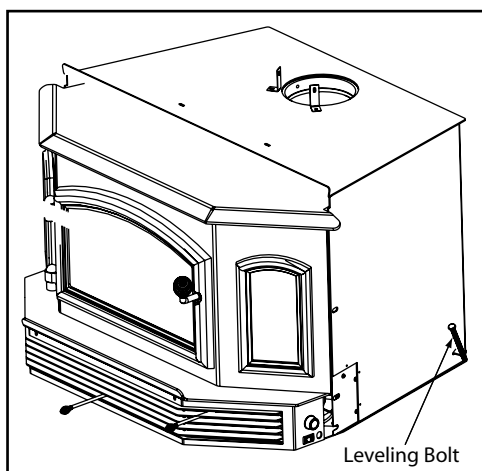

Figure 20.1
2. Remove the leveling bolts from the component pack and start the bolts in the weld nuts. **Figure 20.1**
1. Remove the bolts from the component pack and insert into weld nuts welded to each side of the insert bottom **Figure 20.1**